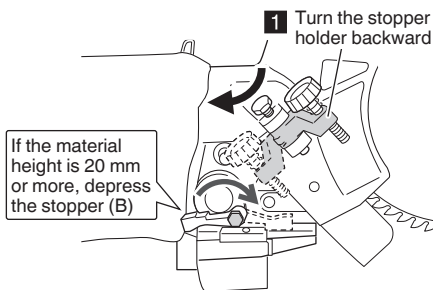

Fig. 56
- (1) Turn the stopper holder on the side of the head backward. (Fig. 56)
- (3) If the height of ㉕ is 20 mm or more, you can tilt the stopper (B) forward and abut the tip of the 6 mm knob bolt for adjusting the depth of cut against the stopper (B) to adjust it up to 60 mm. (Fig. 56)